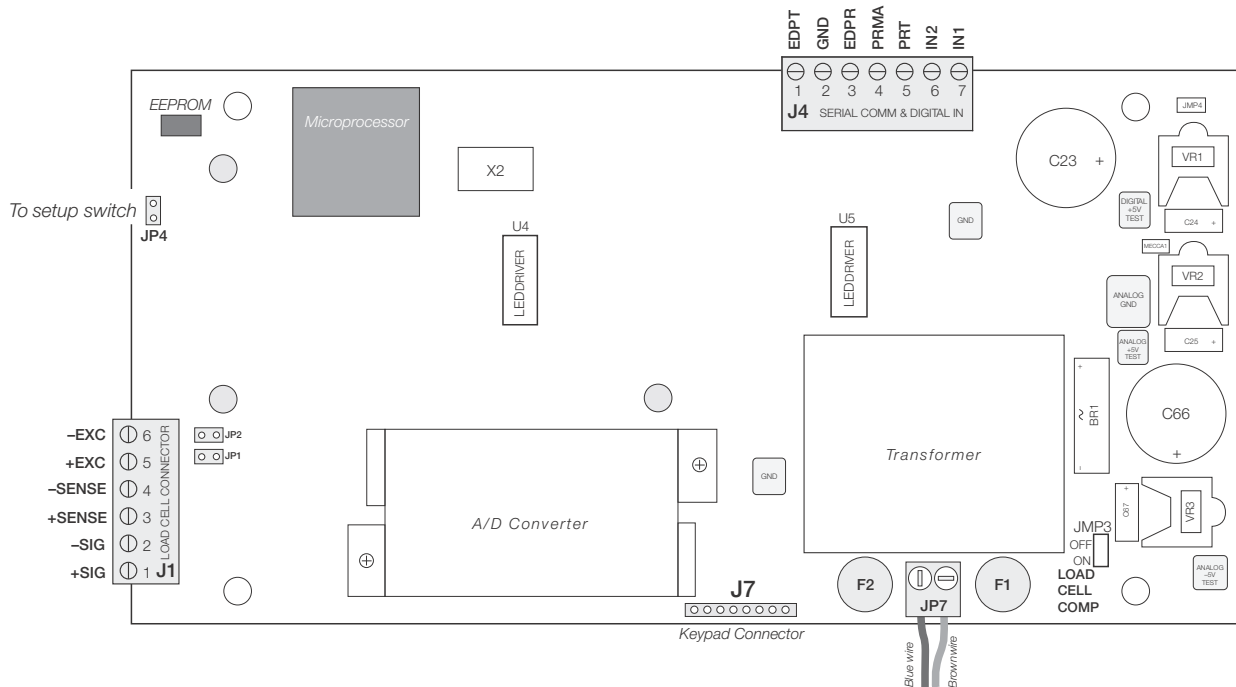

Figure 2-3. IQ plus 355 CPU and Power Supply Board
- 6-position screw terminal (PN 70599) for connector J1 and a 7-position screw terminal (PN 70600) for connector J4 (see Figure 2-3 on page 5).
Wire the load cell cable from the load cell or junction box to connector J1 as shown in Table 2-1. If using 6-wire load cell cable (with sense wires), remove jumpers JP1 and JP2 before reinstalling connector J1 (see Figure 2-3). For 4-wire installation, leave jumpers JP1 and JP2 on.
The load cell compensation jumper (above the A/D converter location on the CPU board; see Figure 2-3 on page 5) must be set ON for load cells with unbalanced bridges. The compensation jumper has the effect of lowering the positive excitation voltage. Uncompensated unbalanced load cells can cause instability or calibration errors.
Mount the analog output module on its standoffs in the location shown in Figure 2-3 on page 5 and plug the module input into connector J5 on the IQ plus 355 board. Connect output cable to the analog output module as shown in Table 2-3, then reassemble the enclosure (Section 2.5).
2. Unplug connectors J1 (load cell cable), J4 (serial communications and digital inputs), J7 (keypad ribbon cable), and JP4 (setup switch). Remove blue and brown power input wires at JP7. If an analog output board is installed, disconnect the analog output cable. See Figure 2-3 on page 5 for connector locations.